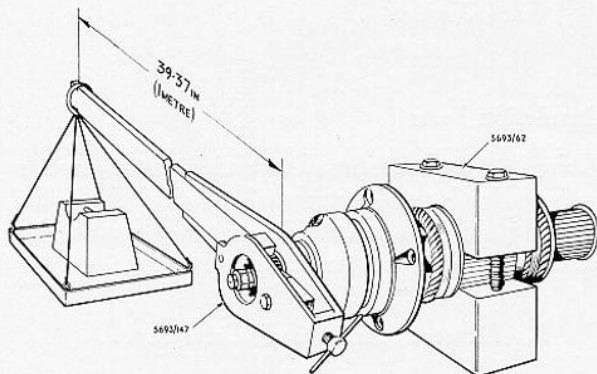

FIG. 6. TESTING THE CLUTCH
These can be tested for continuity and short circuits by means of a "growler" armature tester. If a "growler" is not available, the armature should be tested by substitution. In the event of the armature being found to be faulty, clutch outer race (36) should be pressed off the shaft with the aid of Tool No. 5693/61, and the armature returned direct to us or to the nearest C.A.V. Agent. When the clutch outer race is pressed on to the shaft of the new or replacement armature, Tool No. 5693/94 (SP6 and U6) or Tool No. 5693/95 (BS5) should be inserted into the armature bore as shown in Fig. 6 so
2. Liberally smear the spring and thrust washer on armature plunger (32) with grease. Insert the plunger into the bore of the armature, and tighten plunger retaining nut (33) using the appropriate tool.
3. Insert pressure plates (13), back ring (12) and shim washers (11) into clutch outer race (36).
4. Lightly smear clutch springs (9) with grease, and place them in their holes in clutch inner race (8). Each spring should be inserted with its largest diameter first.
5. Lightly grease clutch plates (10) and place them on the splines of the clutch inner race, taking care to fit them alternately bronze and steel. Fit a steel plate first so that it takes the pressure of the clutch springs.
7. Grease pinion spring (7), and slide it on to the armature shaft.
8. Grease bore of pinion (39) and insert shim (6).
9. Insert pinion into driving endshield (38). In order not to damage the felt lubricating pad, the pinion should be twisted in the direction of the spiral of the pinion thread whilst the lubricating pad is lifted by one finger from inside the casting.
10. Slide pinion and driving endshield on to the armature shaft. Push the pinion forward and rotate it until its thread engages in the internal thread in the clutch inner race. Hold in this position, and replace shim (3), washer (2) and nut (1). Make sure that the shim locates over the shoulder of the shaft and tighten the nut securely. After the nut has been tightened, the pinion must be capable of a small endways movement on the armature shaft.
- (a) Clamp the armature to the bench using clamp bracket 5693/62, and fit torque bar 5693/147 to the pinion as shown in Fig. 6. The torque bar should be fitted so that torque is applied in the opposite direction to the normal starter rotation: